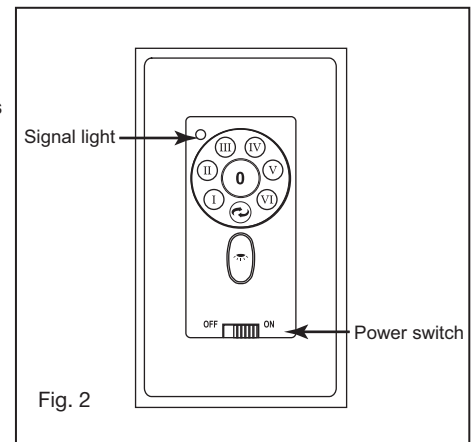

Fig. 2
- 3 Loosen the two security set screws and remove the downrod pin and retaining clip from the coupling on top of the motor assembly. (Fig. 2)
2. Make wire connections from the fan to the receiver unit. For this step use the bundle of 5 wires on the receiver. (Fig. 2)
- 4 Remove one of the three screws on the mounting plate located on the fan motor. Loosen the other 2 screws. (Do not remove) (Fig. 2)
- 5 While holding the LED light kit under your fan, make the polarized plug connections: (Fig. 2)
- 4 Install the wall transmitter on the existing wall outlet box using the screws provided. Attached the wall plate with the mounting screws to finish the installation. (Fig. 2)
- 7 Signal light (Fig. 2)